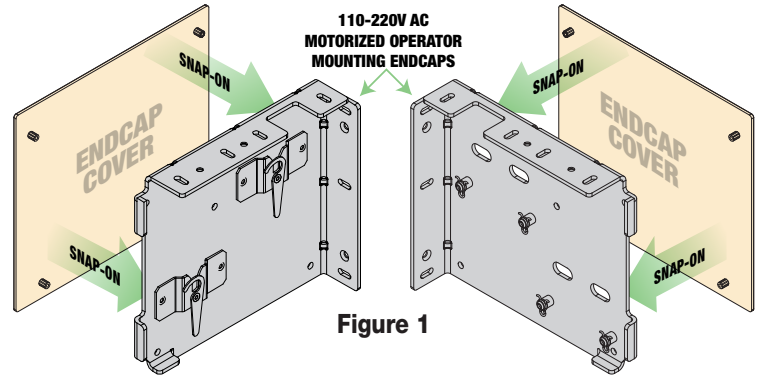

Figure 1
1. Snap endcap covers onto endcaps. The proper orientation of **Left-Hand, Right-Hand, Front and Back** is molded into endcap covers (Fig. 1).